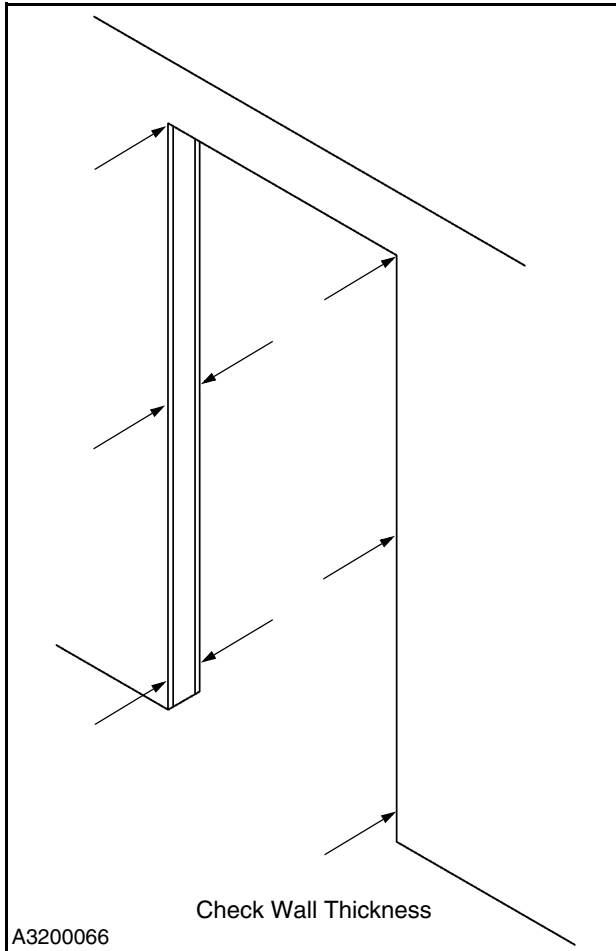

Figure 33
- If the gap is larger, spacers can be used to offset the undersize wall thickness. The use of spacers requires that the frame be removed from the opening, the spacer(s) attached, and the frame reinstalled. The spacers can be used on either one or both of the frame returns, which would result in spacers on either one side or both sides of the wall. Spacers are available from the frame manufacturer. (See Figure 33.)